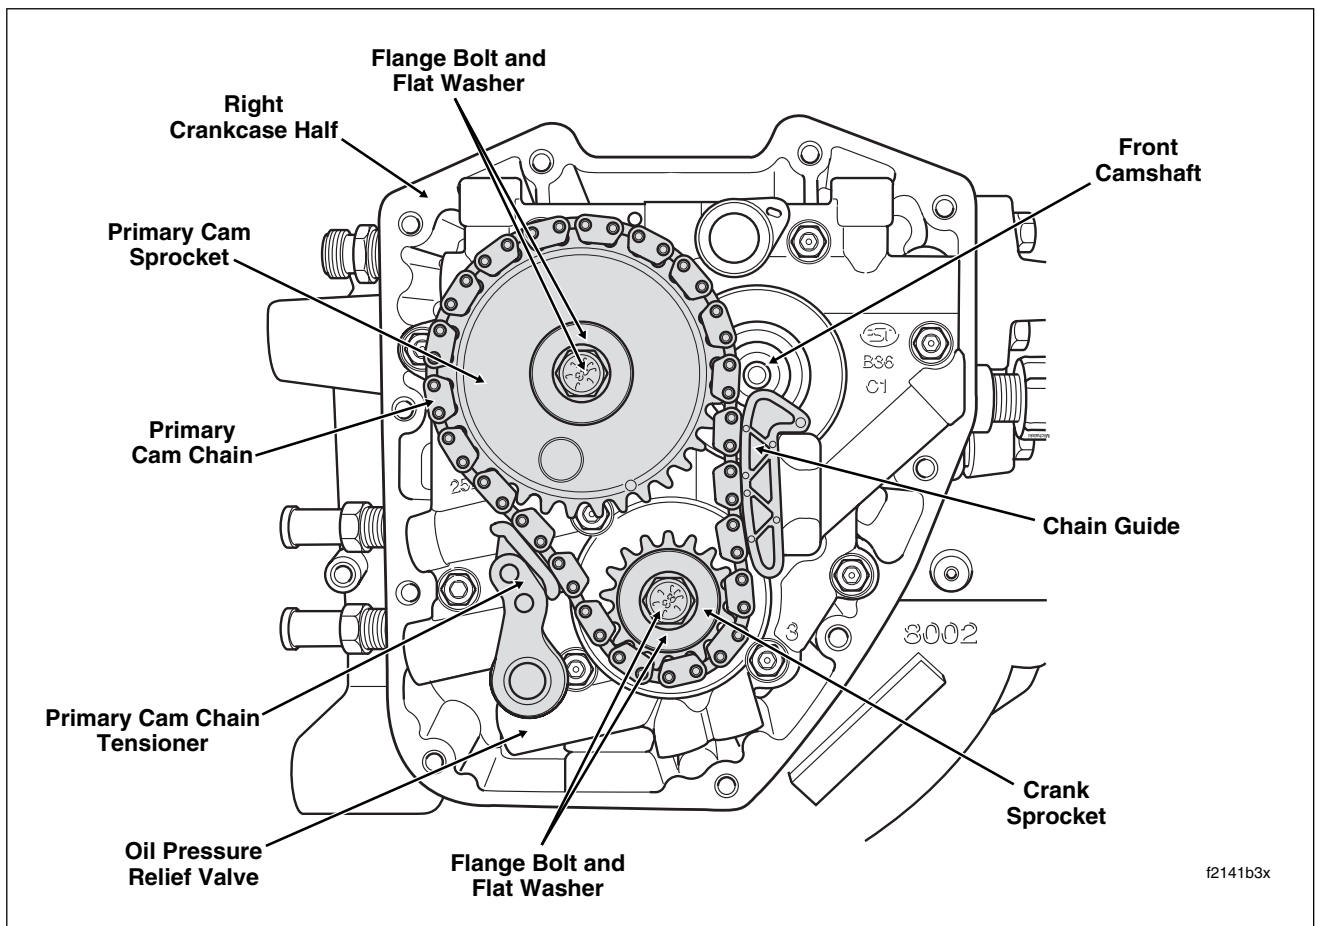

Figure 3-40. Cam Support Plate Assembly
4. Remove the flange bolt and flat washer from the crank sprocket. See Figure 3-40.